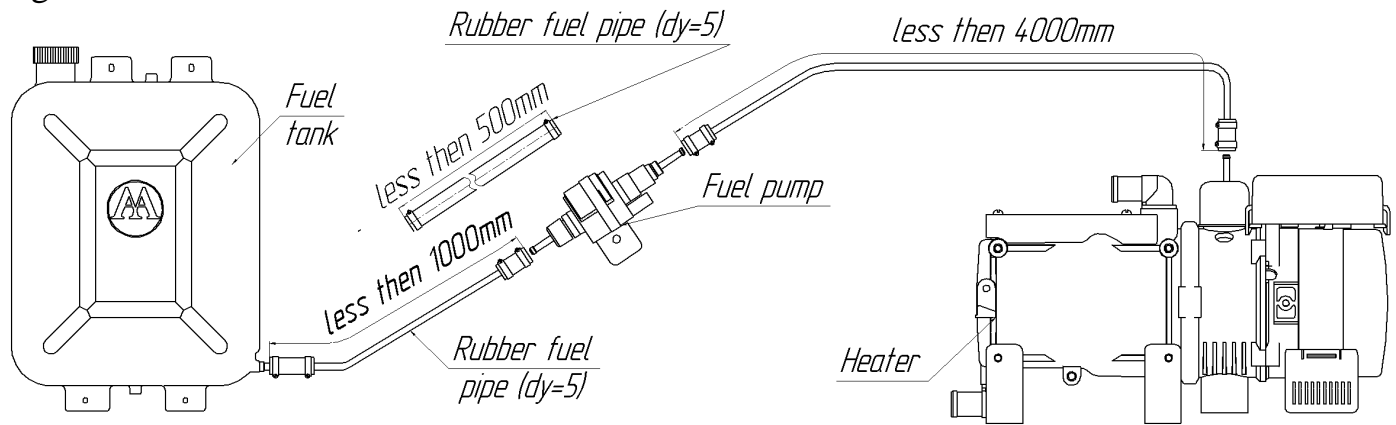

Figure 9. Diagram of connection fuel line with the pre-heater
10.6.1. It is advisable to install fuel pump close to the fuel tank and lower fuel level in the tank. To provide this recommendation it's possible to disconnect fuel pump from the heater and cut rubber pipes to pieces 70 mm length and use the as connecting pipes. It is necessary to improve the harness to the fuel pump from the control unit that is to change connector and use extender. Connect fuel pump, fuel supply line and fuel tank according to figure 9.